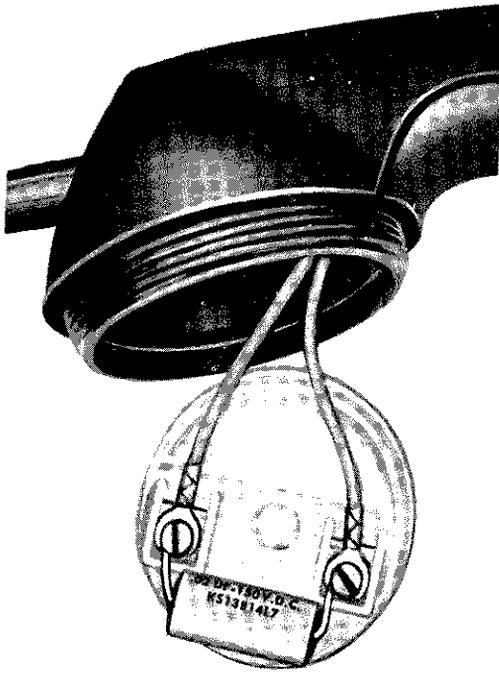

Fig. 11 — KS-13814, List 7 Capacitor,
4.08 The KS-13814, List 7 capacitor may be placed inside the G-type hand set to bypass the transmitter unit as shown in Fig. 11. Place the capacitor against the transmitter cup, keeping the capacitor leads as short as possible.